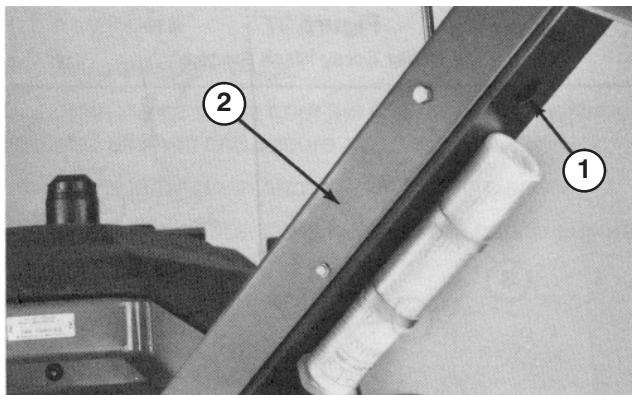

Figure 35
1. Remove the screws securing the cover to the underside of the handle (Fig. 35). Remove the cover.